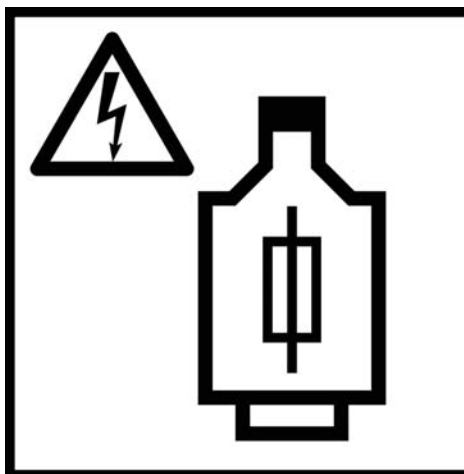

Fig.: 11
- 2 Allow for fuses for each individual phase (fig. 11)